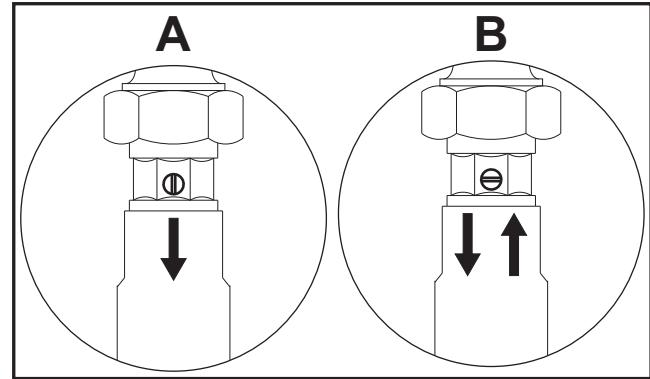
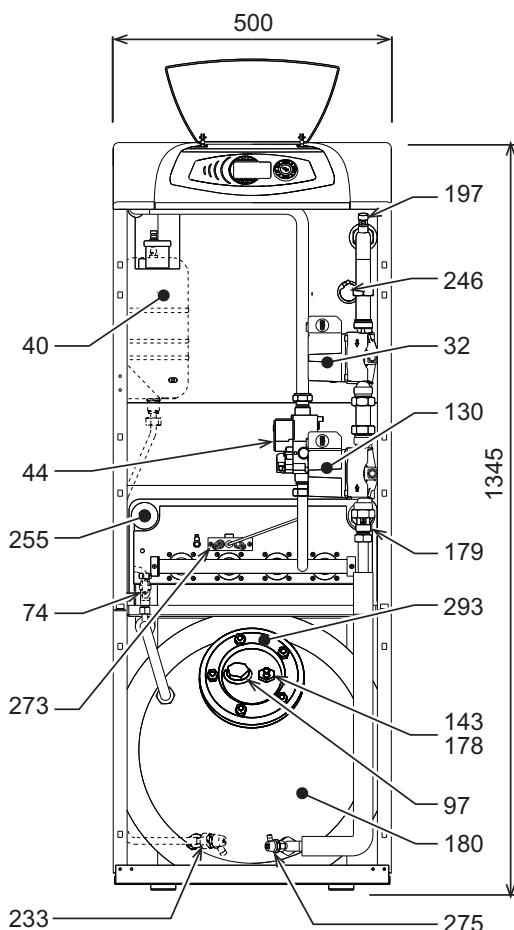

fig. 21
fig. 24 - Dimensions and main components
- To drain the hot water tank, use the drain cock 233 of fig. 24 after closing the valves for filling from the water mains; use a hot water drawing point (washbasin, shower, etc.) as a vent.
- To drain the heating system completely, use the cock 275 of fig. 24 after releasing the shutters of the two non-return valves detail 179 of fig. 24 (also see fig. 21). Use the radiator valves as vents.
- To drain just the water contained in the boiler, close the shutoff valves and fully open the cock (255 - fig. 24). Then release the shutters of the non-return valves (179 - fig. 24). Lastly, open the cock 197 of fig. 24.
Before filling the system again, remember to close the drain cock and radiator vent valves and lock the shutters of the non-return valves 179 of fig. 24.